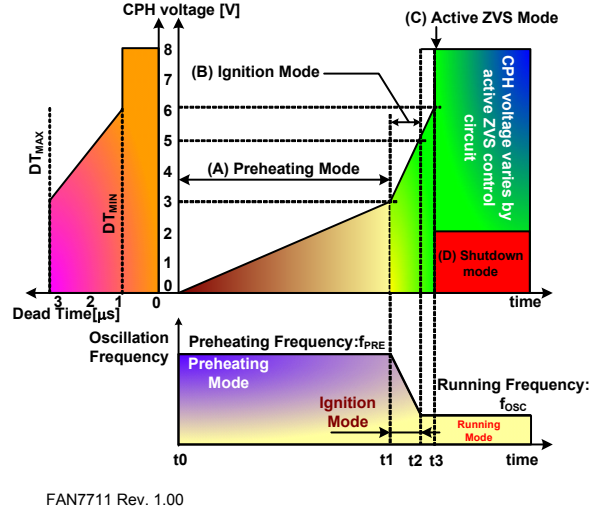

Figure 20. Operation Modes
FAN7711 has four operation modes: (A) preheating mode, (B) ignition mode, (C) active ZVS mode, and (D) shutdown mode, depicted in Figure 20. The modes are automatically selected by the voltage of CPH capacitor, shown in Figure 20. In modes (A) and (B), the CPH acts as a timer to determine the preheating and ignition times. After the preheating and ignition modes, the role of the CPH is changed to stabilize the active ZVS control circuit. In this mode, the dead time of the inverter is selected by the voltage of CPH. Only when FAN7711 is in active ZVS mode is it possible to shut off the whole system using CPH pin. Pulling the CPH pin below 2V in active ZVS mode, causes the FAN7711 to enter shutdown mode. In shutdown mode, all active operation is stopped, except UVLO and some bias circuitry. The shutdown mode is triggered by the external CPH control or the active ZVS circuit. The active ZVS circuit automatically detects lamp removal (open-lamp condition) and decreases CPH voltage below 2V to protect the inverter switches from damage.
When the CPH voltage exceeds 3V, the internal current source to charge CPH is increased about six times larger than I_{PH} , noted as I_{IG} , causing rapid increase in CPH voltage. The internal oscillator decreases the oscillation frequency from f_{PRE} to f_{OSC} as CPH voltage increases. As depicted in Figure 20, lowering the frequency increases the voltage across the lamp. Finally, the lamp ignites. Ignition mode is defined when CPH voltage lies between 3V and 5V. Once CPH voltage reaches 5V, the FAN7711 does not return to ignition mode, even if the CPH voltage is in that range, until the FAN7711 restarts from below $V_{DDTH(ST-)}$. Since the ignition mode continues when CPH is from 3V to 5V, the ignition time is given by: